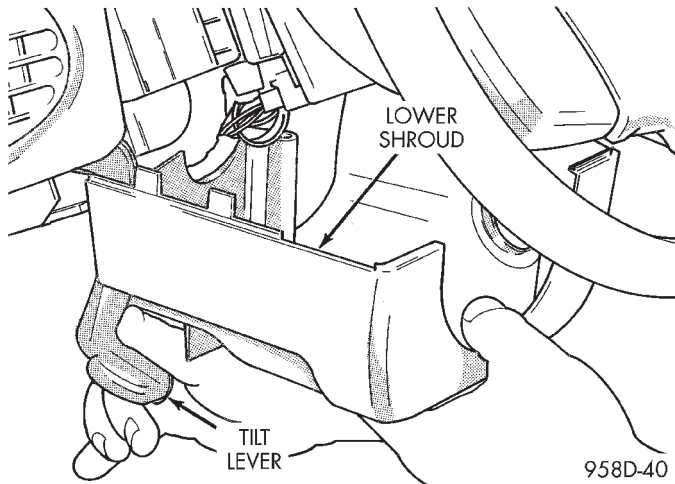

Fig. 57 Lower Shroud Removal
(9) Hold tilt wheel lever down and slide lower shroud forward to remove it from column (Fig. 57).
(10) Tilt wheel to full down position and remove upper steering column shroud.